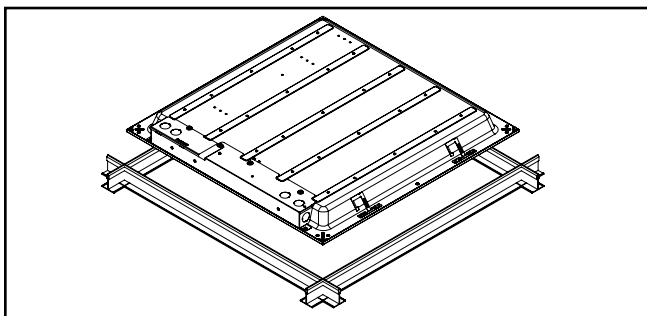

Figure 3.
3. Pass fixture through the grid at a 45 degree angle and lay fixture into the grid (Fig. 3).